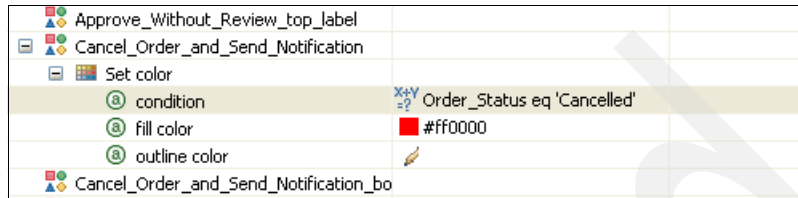

Figure 8-128 Setting the condition and fill color
- c. Set the condition and fill color so that, when the condition becomes true, the color is filled (Figure 8-128):